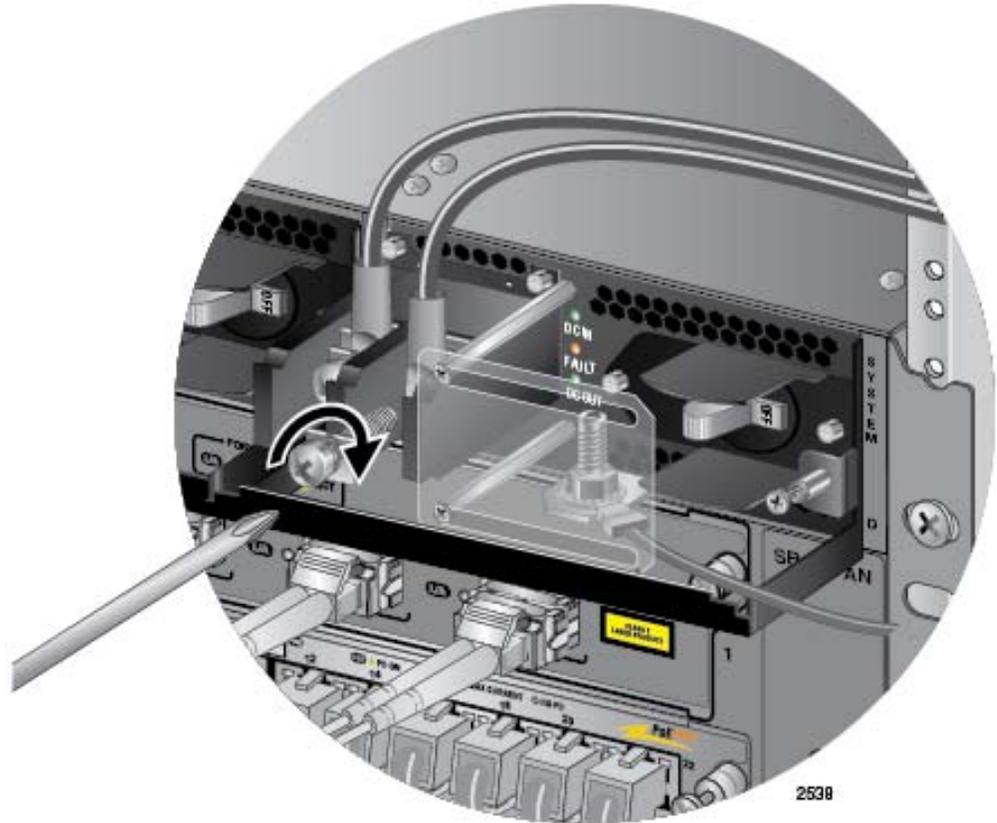

Figure 126. Connecting the Negative (-) Power Wire with a Straight Terminal
7. With a #3 Phillips-head screwdriver, connect the negative (-) power lead wire to the negative terminal on the power supply, with the remaining terminal screw removed in the previous step 5. The negative terminal is on the right. You may attach the terminals with the wires either above or below the terminal block. Refer to Figure 126 on page 187.